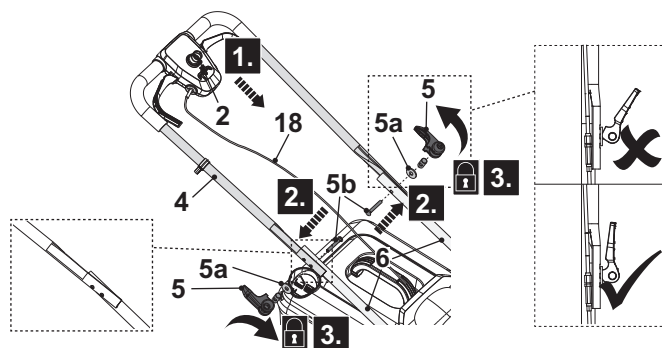

Fig. 3
4. Hold the upper handle bar (4) with the safety switch button (2) facing upwards. Align the mounting holes of the upper handle bar (4) and the lower handle bars (6) (Fig. 3, step 1).
5. Pass the mounting bolt (5b) through the mounting holes to the end (Fig. 3, step 2).